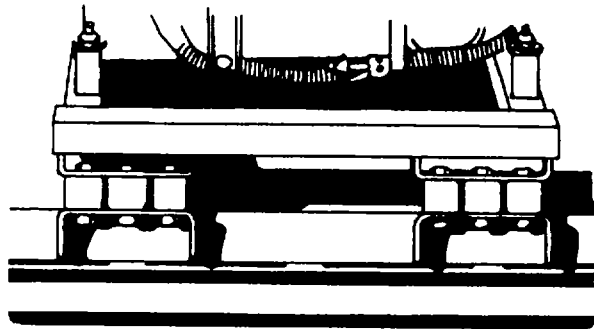

Figure 4-12. Vibration Mounts
2. Vibration Mounts (figure 4-12).